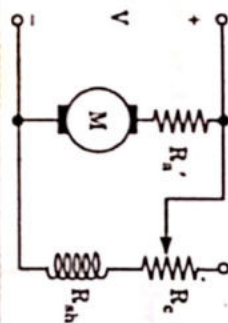

Fig. 3.11.1. Speed-control of a DC shunt motor by variation of field flux.
2. In the shunt motor, this is done by connecting a variable resistor R_f in series with the shunt field winding as shown in Fig. 3.11.1. The resistor R_f is shunt field regulator.